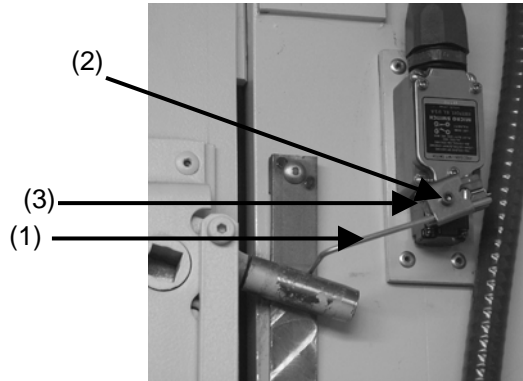

Figure 4-49. Limit switch.
1. Bend limit switch arm (1) towards or away from the end wall panel (Fig. 4-49).
2. Loosen set screw (2) on collar and slide limit switch arm (1) in or out of collar.
3. Loosen nut (3) and rotate collar with limit switch arm (1) up or down.